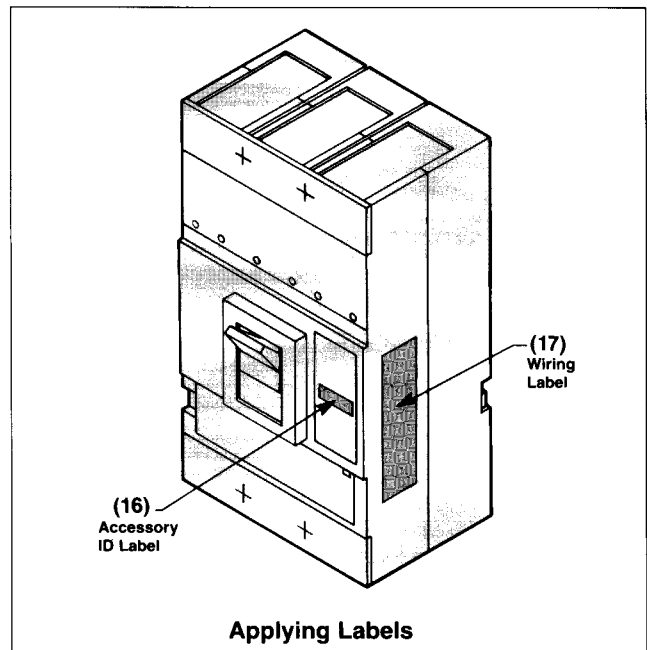

Figure 4
A. Add two labels to circuit breaker. Attach internal accessory ID label (16) (Figure 4) to top of circuit breaker on right hand side. Make sure it is located in the proper space on existing label. Attach wiring label (17) on side of circuit breaker cover as shown.